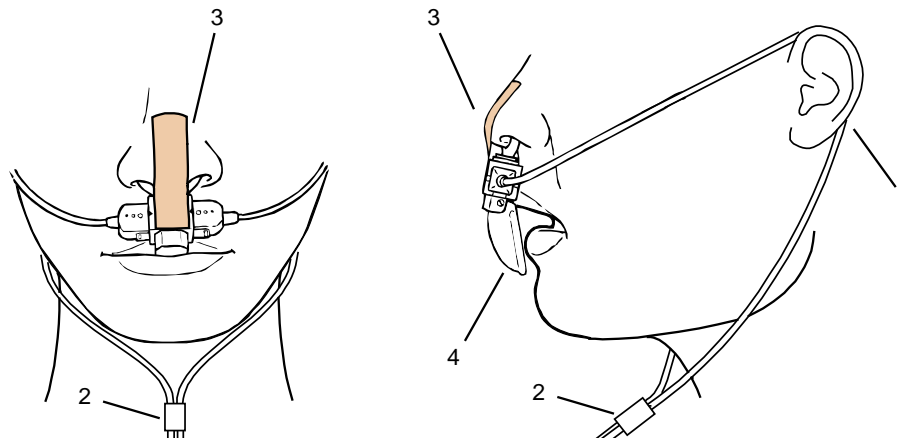

Fig. 6-25 Fitting the disposable CO₂ nasal(/oral) adapter on the patient
- Position the sensor cable behind the ears (Fig. 6-25, item 1) and slide the fastening ring (Fig. 6-25, item 2) loosely towards the chin.
- Attach the disposable adapter to the nose with the adhesive tape provided for this purpose (Fig. 6-25, item 3).
- The oral breath collector (Fig. 6-25, item 4) must not be more than 10 mm away from the lower lip.